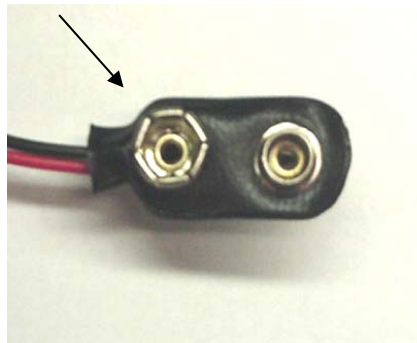

Figure 1
Some COMPASS battery terminal connections are configured with a black six- (6) point battery terminal connection (see **Figure 1**) that connects the positive terminal of a 9-volt battery to the COMPASS. Sperian Respiratory Protection has become aware that the black six- (6) point battery terminal connection may have the potential to lose contact with the battery, causing the COMPASS to reset (if the air supply is on), or to turn completely off (if the air supply is not on). This loss of contact could happen anytime the COMPASS is in operation. All COMPASS units, regardless of manufacturing date, must be inspected by the users to determine which battery connection their COMPASS has.